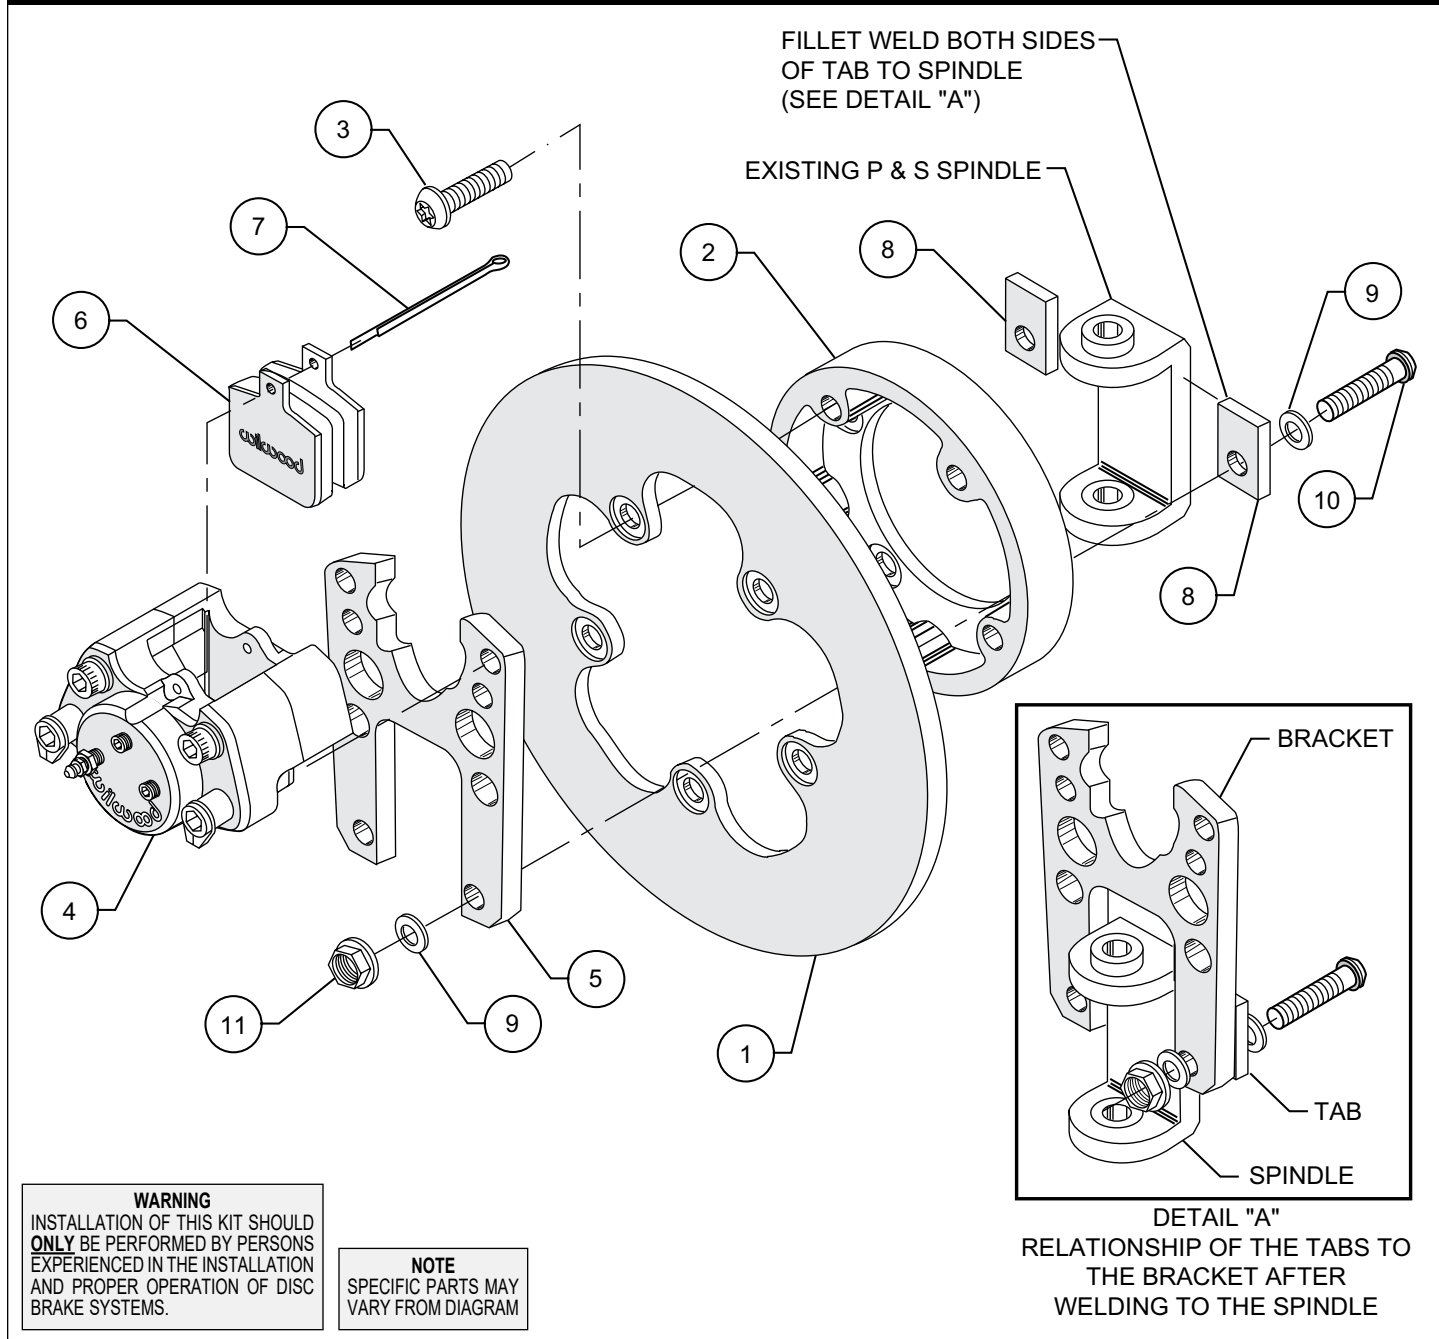

Figure 1. Typical Installation Configuration
**NOTE:** Numbers in parenthesis refer to the parts list and Figure 1 on the preceding pages.
- Attach rotor (1) to hat (2) using bolts (3), as shown in Figure 1. Apply red *Loctite*® 271 to the bolt threads and torque to 45 ft-lb using a criss-cross pattern.
- Apply red *Loctite*® 271 to the mounting bolts threads contained within the caliper (4). Mount caliper (4) to bracket (5). Torque these bolts to 42 ft-lb.
•Install the brake pads (6) into the caliper (4) and secure using cotter pin (7). The bracket (5) acts as the pad retainer for the inboard side pad.
•With the hole in the tab (8) in the downward position (see Figure 1), bolt the steel tabs (8) to the bracket (5) utilizing the washers (9) and bolts (10) slid through the hole on the hat side. Position another washer (9) over the bolts (10) and secure to the bracket (5) using nuts (11). Tighten only enough to keep the tabs from moving.
**NOTE:** Please reference the caution statement at the beginning of the assembly instructions. With the spindle in its correct upright position, position the caliper/bracket assembly (4 and 5) over the top of the rotor (1) at the 12 o'clock position. Align the steel tabs (8) onto the side of the spindle. While maintaining the location of the steel tabs (8) in relationship to the side of the spindle, raise the caliper assembly (4 and 5) so that the top of the brake pads (6)